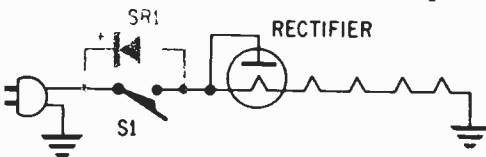
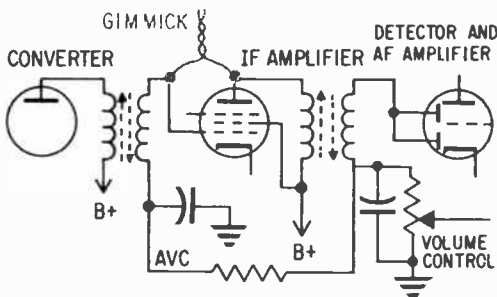

Fig. 1—A single component, a 500 ma, 200 PIV diode (SR1), brings instant-on to any AC/DC radio.
Fig. 3—Gimmick causes IF amplifier to be on verge of oscillation, increases selectivity significantly.
**For extra selectivity** you can install a gimmick which will regenerate the IF amplifier. Explanation is that regeneration will cause an IF amplifier to be on the verge of self-oscillation. Circuit Q rises sharply at this point and selectivity, therefore, is increased many-fold. The circuit in Fig. 3 shows how
Fig. 1—View down into bridge. Wire selector switches S1, S2 and S3 before mounting them on front panel. Then mount circuit board on bottom of U-section of Minibox with four 1¼-in.-long spacers. Connect front-panel controls to circuit board, then install filament transformer T2 and associated components on rear panel. Pictorial of components on rear panel is shown in Fig. 3.
Fig. 3—After circuit board is installed, mount these components on top of rear panel. We soldered F1 in AC line but you could use fuse holder. J1 and J2 normally are connected with jumper. When checking electrolytics, remove jumper and connect + terminal of 9-V battery to J1, negative terminal to J2.